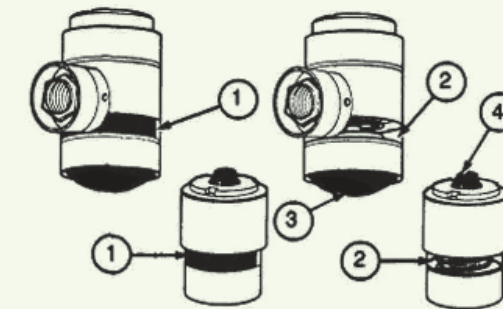

Figure 5.11.3 Restriction indicator: (1) warning light; (2) clear panel; (3) rubber base; (4) button
Refer to Figure 5.11.3. When the red warning light (1) is seen through the clear panel (2) after the engine has stopped, the air filter element must be removed for service.